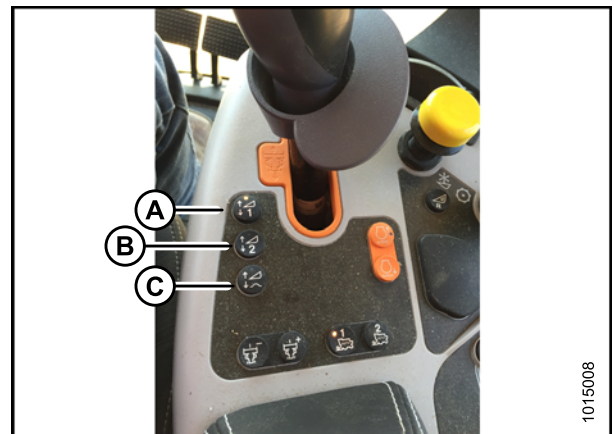

Figure 6.115: New Holland Combine Controls
5. Select one of the auto height set point buttons shown in Figure 6.115: *New Holland Combine Controls, page 121*.